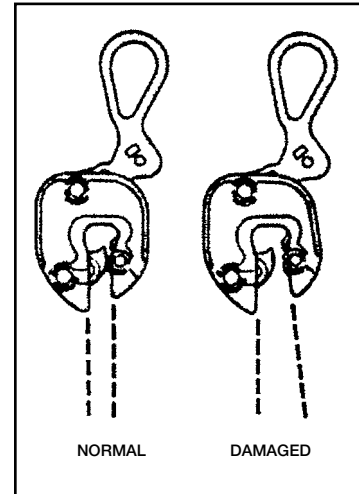

Figure 72
- A. Inspect the throat width of the clamp (Fig. 72).